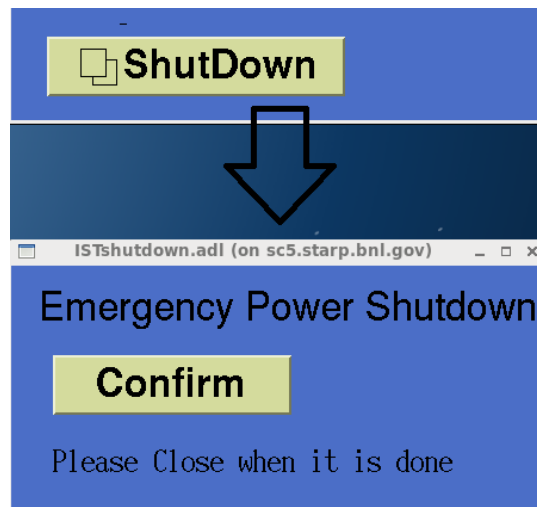

Figure 6 IST Emergency Power Shutdown Confirmation window.
1. Click on the “ShutDown” button in main GUI (Figure 1). A new window will pop up (Figure 6).